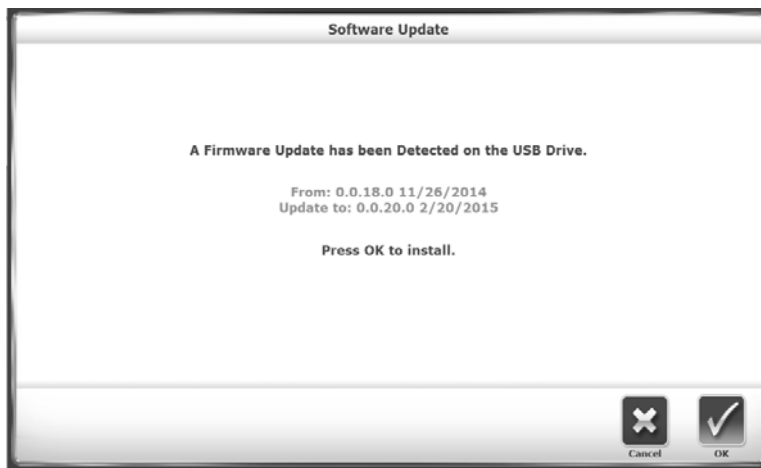

Figure 9.2. Software Update Screen.
4. The Software Update screen, illustrated in Figure 9.2, is displayed. Follow the directions to complete the update.